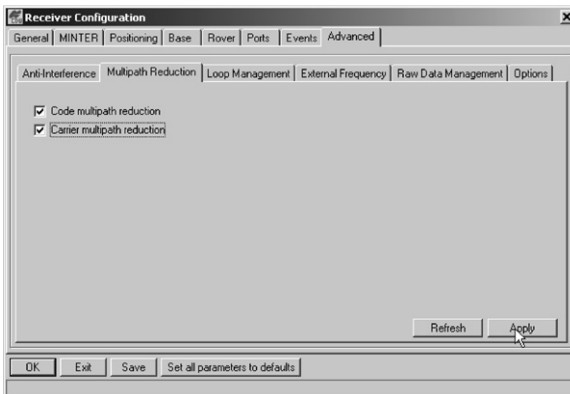

Figure 3-4. Advanced->Multipath
3. Click **Advanced** and then the **Multipath** tab and set the following parameters, then click **Apply** (Figure 3-4):